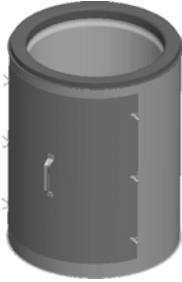

Figure 73
1. Unscrew the six (6) wing screws with your hands and set them in a safe place during the inspection (**see figure 73**).